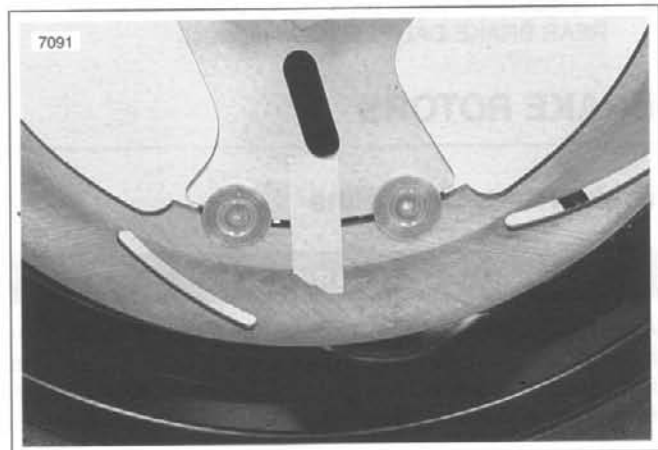

Figure 1-24. Initial Mark
1. See Figure 1-24. Grasp brake rotor and turn it as far counterclockwise as possible. While holding rotor in this manner, place a piece of tape between carrier and brake rotor.